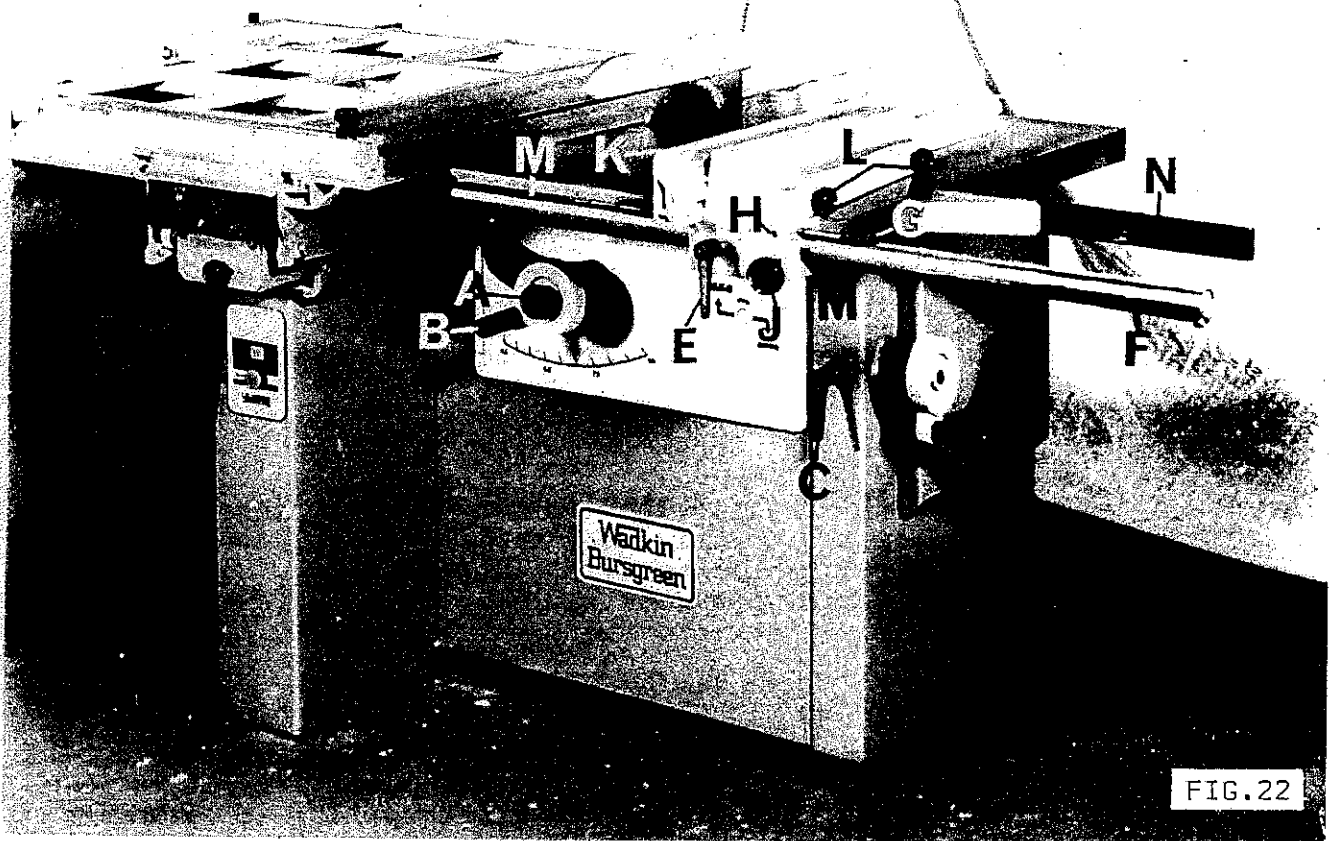
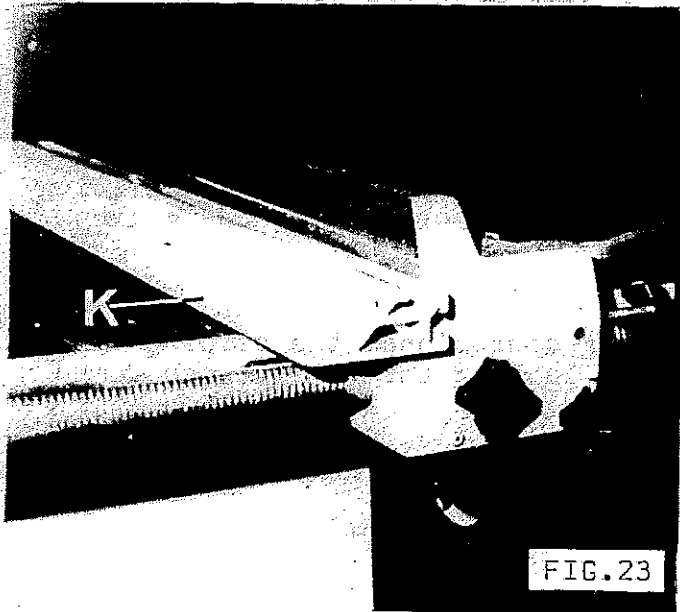

FIG. 22
FIG. 23
To re-assemble rip fence, proceed as follows and refer to FIG.22.
Release locking handle "A" in FIG.22 and raise or lower the saw arbor by the handwheel "B" to the required position then relock handle "A".
Release locking handle "C" in FIG.22 and turn handwheel "D" working in conjunction with the canting scale indicated by the pointer to the required saw position. Relock handle "C".
- 1) Loosen locking handle "E" FIG.22.
The fence plate "K" in FIG.22 has two positions. Position shown in FIG.22, is for use with deep stock, fence can be moved longitudinally to facilitate this. Position shown in FIG.23, is for use with faced panels, melamine, veneer, etc.
- 1) Loosen handwheels "L" in FIG.22 the slide fence plate from fence body.
- 2) Slide fence plate over the two locking plates to position shown in FIG.23, then relock handwheels "L".
When the fence plate position has been changed as previously described, the pointer "G" in FIG.22, must be reset accordingly.
- 1) Loosen locking handle "E" FIG.22, then move fence to a position which would allow a reasonable cut to be taken. Turn locking handle "E" to lock fence in position.